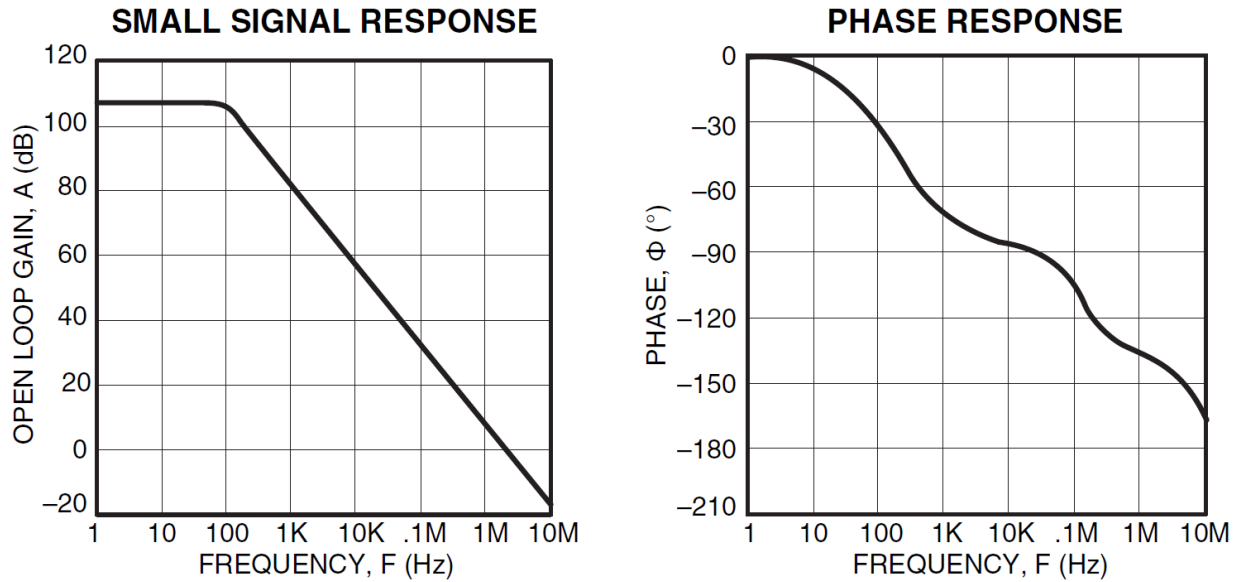

Figure 3: Open-loop frequency response of PA13.
2. Based on the PA13 open-loop frequency response shown in Figure 3, calculate the closed-loop bandwidth of the designed voltage stage. Also, draw the Bode plot and expected step response of the closed-loop transfer function  $V_o(s)/V_r(s)$ .